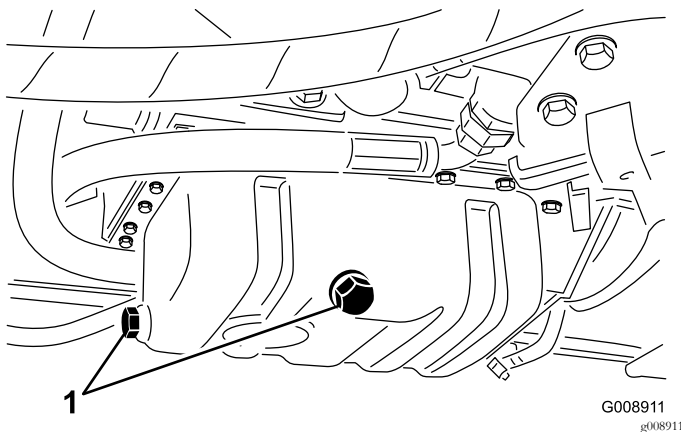

Figure 41
1. Remove the drain plug (Figure 41) and let the oil flow into a drain pan.